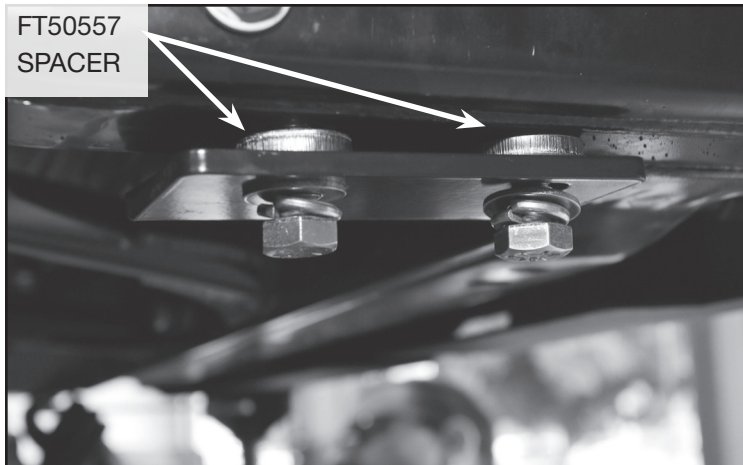

FIGURE 10 - STEP 8
8. Locate FT50432 (Dual nut tab), (**NOTE: For factory bumpers and aftermarket that do not included new frame rails use FT50557 Spacers**) and 1/2" X 1-3/4" bolts, lock and standard washers. Insert the nut tab through the rear opening of the frame to line up with the factory holes on the Drivers side. **SEE FIGURE 9.** Install the 7/16" hardware at the rear sides of the sub-frame using the FT50557 (Spacers) between the vehicle frame and Fabtech sub-frame. **SEE FIGURE 10.**
- Passenger Side: Using the sub-frame as a guide, drill the (2) 1/2" holes into the frame and repeat step 8 on the Passenger side.